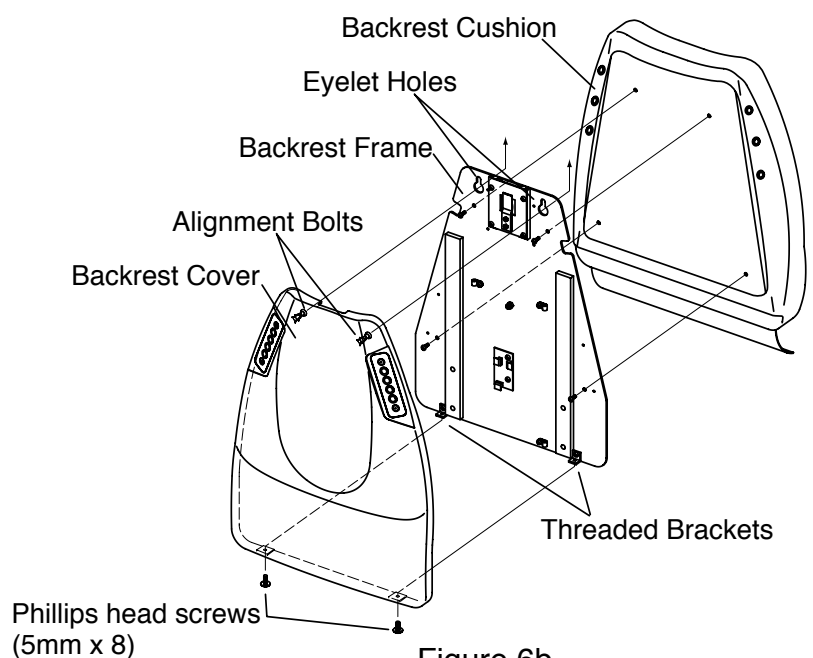

Figure 6b
- 5) Remove 2(5mm x 8) phillips head screws that secure the plastic backrest cover to the metal backrest frame (Figure 6b). Using a 10mm hex key wrench, attach backrest frame to seat back support using 4(10mm x25) socket head cap screws.(See Figure 5 a.)
- d) Secure backrest cover to backrest frame using 2 (5mm x 8) phillips head screws, as shown in figure 6b.